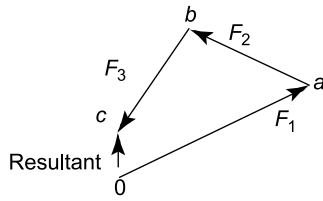

Figure 5.13
- Draw **0a** to scale to represent force F_1 in both magnitude and direction (see Figure 5.13)
- (iv) The resultant vector is given by length $0c$ in Figure 5.13. The direction of resultant $0c$ is from where we started, i.e. point 0, to where we finished, i.e. point c . When acting by itself, the resultant force, given by $0c$, has the same effect on the point as forces F_1 , F_2 and F_3 have when acting together. The resulting vector diagram of Figure 5.13 is called the **polygon of forces**.